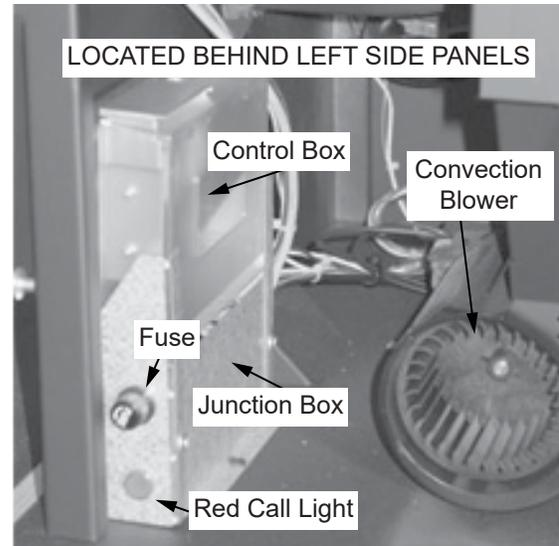

Figure 11.2
5. Look through the hole in the left lower side panel and you will see the red call light on the control box will be on (**Figure 11.2**). This indicates the thermostat is calling for heat.
3. Occasionally the appliance may run out of fuel and shut itself down. When this happens, the red call light will be on (**Figure 11.2 on page 11**).